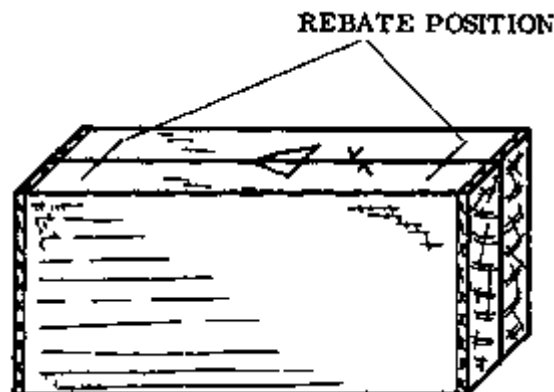

Fig. 2
- Make a cutting list. The end pieces can be cut to the required length, that is the outside width of the box minus the width of the two laps. Allow 3 mm extra at each end of the side pieces, for planing off after assembly (Fig. 2).
- Place the two sides together and mark the position of the rebates, squaring with the try square (Fig. 2).